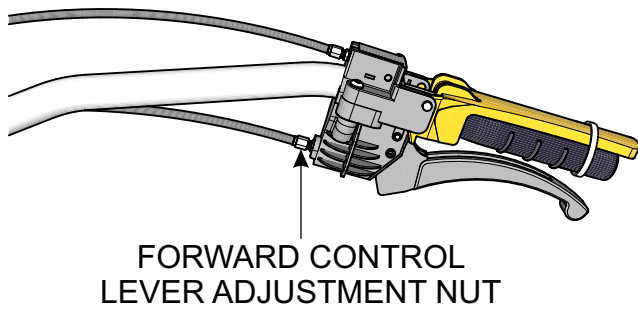

Figure 49. Forward Control Lever Adj. Nut
4. If the correct gap has not been achieved, adjust the nut (Figure 49) on the cable of the **forward lever** until the correct gap has been achieved.
6. If the correct bracket rotation (15°) has not been achieved, adjust the nut (Figure 49) on the cable of the **forward control lever** until the correct rotation has been achieved.